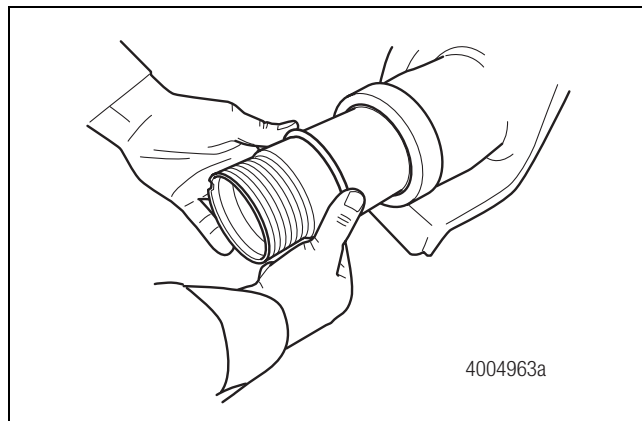
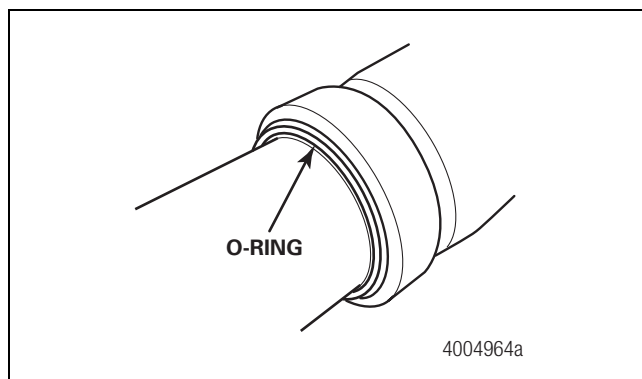

Figure 3.25
Figure 3.26
B. Slide the O-ring onto the spindle. Figure 3.25. The O-ring must be positioned so it rests at the corner radius of the backup collar. Figure 3.26.